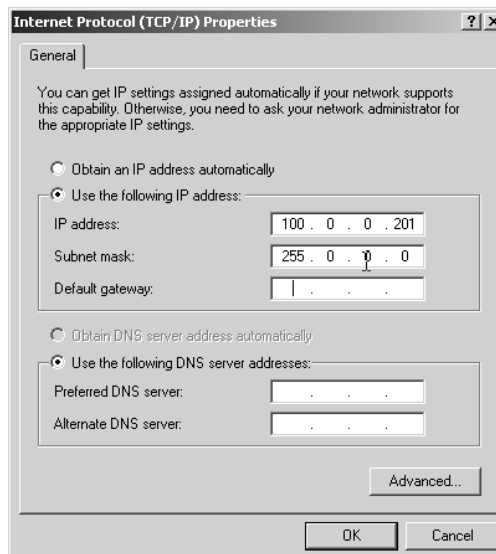

Figure 4. Internet Protocol (TCP/IP) Properties Dialog Box
3. In the Local Area Connection Properties dialog box, double-click the Internet Protocol (TCP/IP) listing. The Internet Protocol (TCP/IP) Properties dialog box appears (refer to Figure 4).